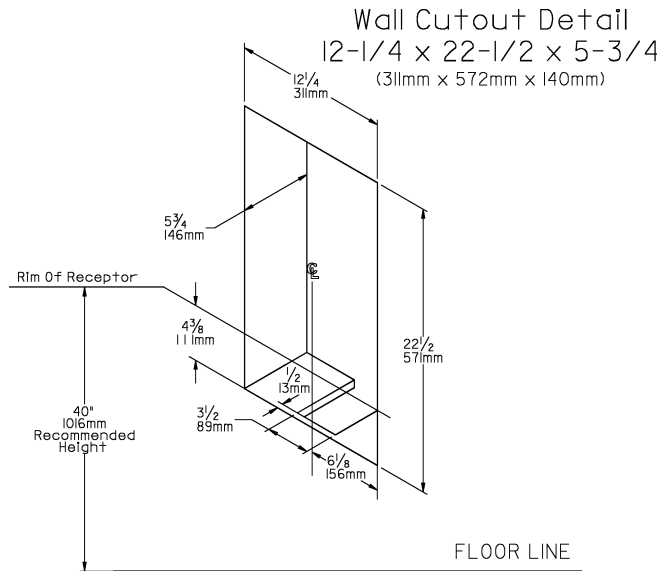

FIG. 2
1. Prepare the wall cutout opening(s). Refer to Wall Cutout Detail (See Fig 2).